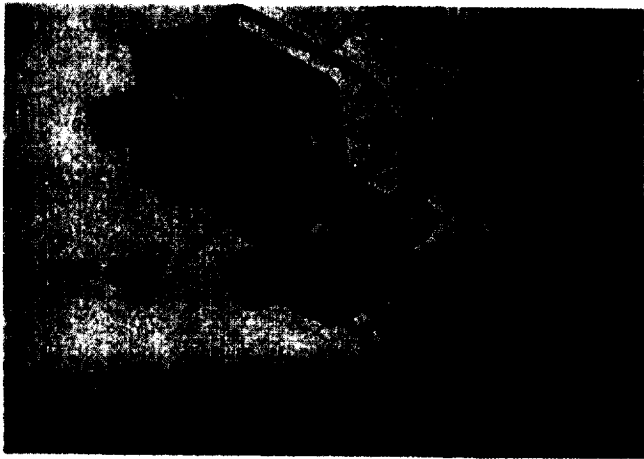

Figure 22-5. Removing Rear Piston Assembly.
(6) Slide the washer out of the cylinder.
(7) Remove the front piston retaining screw and slide out the rear piston assembly (figure 22-5).